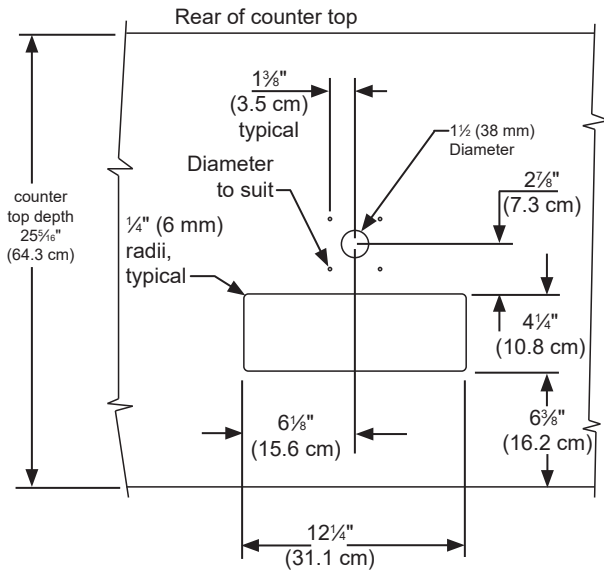

Figure 38
The cutout dimensions shown in Figure 38 are based on a 25 $\frac{5}{16}$ " (64.3 cm) deep counter top. Your counter top may be different than this and require other front to back dimensioning. Refer to the product dimensions on page 6 when determining the required dimensions.
4. If you are installing your keg refrigerator under a counter you will need to drill 5 holes in the counter top to mount the tower. The first hole is a 1 $\frac{1}{2}$ " diameter hole located at the center of the tower for the beer line, locate approximately 13 $\frac{1}{2}$ " (34.3 cm) from the front edge of the counter top (based on a counter top depth of 25 $\frac{5}{16}$ "). Next drill the 4 tower mounting holes per the dimensions in Figure 38. The hole diameter is dependent on the counter top material and if screw anchors are required. The screws supplied are in the literature pack and are a #10 x 1" type AB stainless steel screw. Mark and cut the rectangular cutout for the drain sump. After the holes are drilled and the keg refrigerator is in place under the counter top feed the beer line through the tower gasket, the 1 $\frac{1}{2}$ " hole in the counter top and the hole in the top of the keg refrigerator. Mount the tower to the counter top with the 4 screws provided. Place the counter top drain sump, from the literature pack, in the rectangular hole with the radius cutout to the rear around the tower and place the grate in the sump.